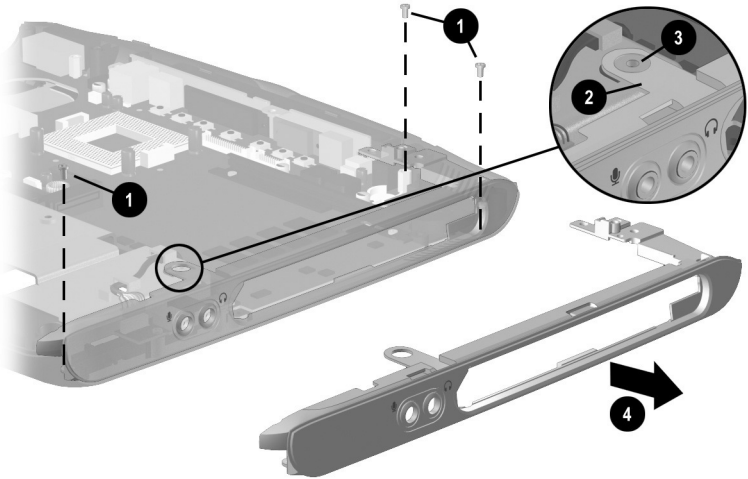

Figure 5-42. Removing the Right Side Panel
2. Remove the three silver TM2.0 × 5.0 screws ❶ that secure the right side panel to the base enclosure (Figure 5-42).
3. Lift the slot ❷ on the alignment arm on the bezel off of the circular slot ❸ on the base enclosure.
4. Slide the right side panel to the right to remove it from the base enclosure ❹.